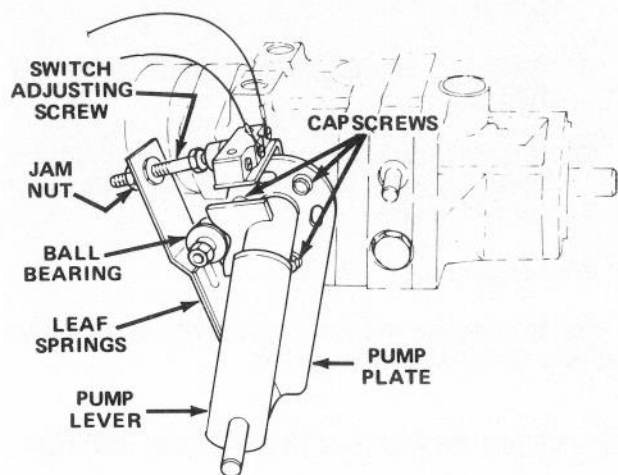

Figure 55
1. Park vehicle on a level surface and turn engine off. Apply the parking brake, tip seat forward and actuate pump lever (Fig. 55) to insure assembly is properly seated and operating freely. Correct any discrepancy.
of pump plate counterclockwise (Fig. 55). By contrast, tap pump plate clockwise if wheel is rotating backward (Fig. 55). When wheel stops rotating, tighten capscrews holding pump plate against side of transmission. Verify the adjustment with throttle in SLOW and FAST position.
- A. Ball bearing is loose or worn out (Fig. 55).
- F. Weak or damaged leaf springs (Fig. 55). Replace.
- 2. Actuate the pump lever (Fig. 55) to insure all parts are operating freely and seated properly.
- 3. Loosen jam nut. Rotate switch adjusting screw (Fig. 55) until there is a gap between head of screw and switch button.